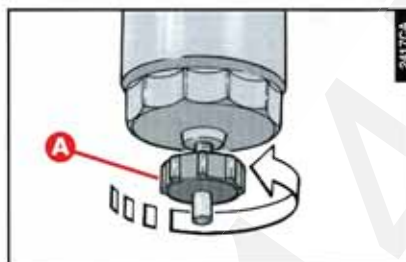

fig. 21
- Unscrew knob (A-fig. 21) until a steady flow of fuel is obtained; then tighten the knob.